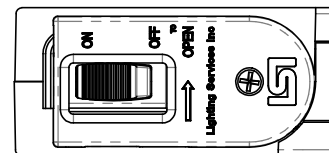

FIGURE 2. FITTING WITH SWITCH ON, AND POWER HANDLE CLOSED
4. CLOSE THE POWER AND DATA HANDLES AND FLIP THE FITTING SWITCH ON (**FIG. 2, 4**).